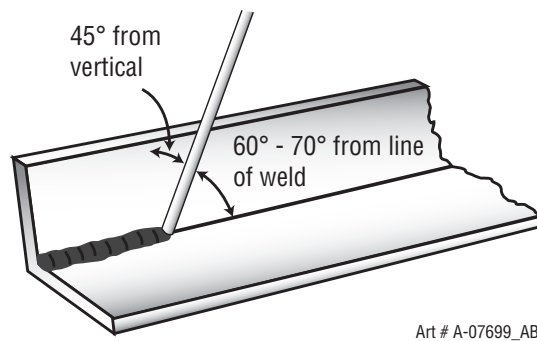
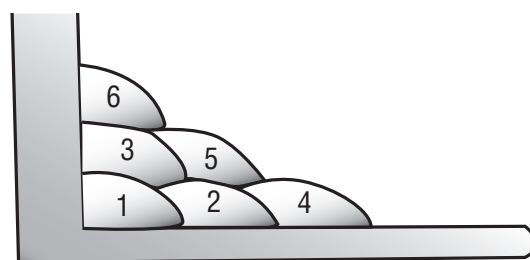

Figure 4-14: Electrode position for HV fillet weld
Figure 4-15: Multi-runs in HV fillet weld
E7014 electrode at 120 amps, position angle iron with one leg horizontal and the other vertical. This is known as a horizontal-vertical (HV) fillet. Strike the arc and immediately bring the electrode to a position perpendicular to the line of the fillet and about 45° from the vertical. Some electrodes require to be sloped about 20° away from the perpendicular position to prevent slag from running ahead of the weld. Refer to Figure 4-14. Do not attempt to build up much larger than 1/4" (6.4mm) width with a 1/8" (3.2mm) electrode, otherwise the weld metal tends to sag towards the base, and undercut forms on the vertical edge. Multi-runs can be made as shown in Figure 4-15. Weaving in HV fillet welds is undesirable.